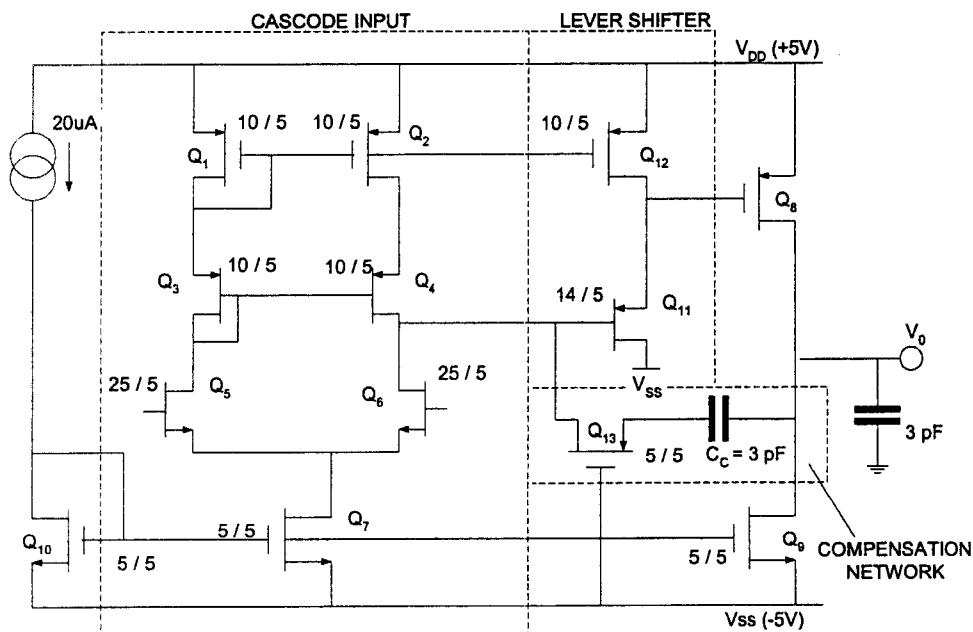

Figure 1
1. (a) Figure 1 shows a partially-designed two-stage CMOS op-amp required to give a voltage gain of approximately 83 dB. Given that the technology is a fixed  $5\mu m$  length double metal CMOS process, design the channel width of output driver transistor Q8 to achieve the required voltage gain specification. Aspect ratios of all other devices are shown on the circuit. Assume all bulk effects are negligible and that the voltage gain of level shifting buffer Q11 is approximately unity. Device model parameters are given below.
- (b) Estimate the gain bandwidth product and slew rate for your op-amp design. Where would you connect two additional NMOS devices in Figure 1 to significantly increase the voltage gain of the op-amp?